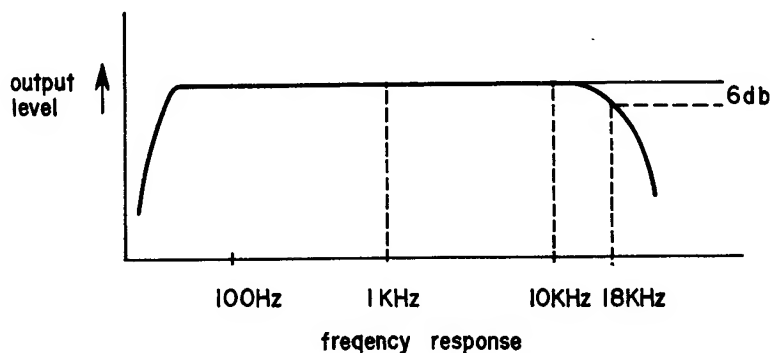

Fig. 3
- As shown in Fig. 3, record the frequencies of 1 KHz and 10 KHz. Adjust the bias voltage so that the V.T.V.M. which is connected to the line output indicates the same voltage at both frequencies.
- At 3-3/4 ips, the bias voltage can be adjusted by turning VR501, 502 (R) (semi-fixed resistor 30 K-B) of Bias Oscillator Board (RD-A513).